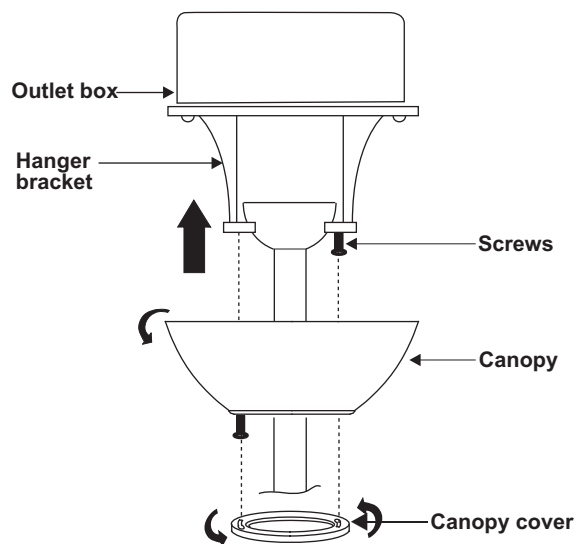

Figure 12
6. Slide the canopy up to hanger bracket and place the key hole on the canopy over the screw on the hanger bracket, turn canopy until it locks in place at the narrow section of the key holes. (Fig. 12)